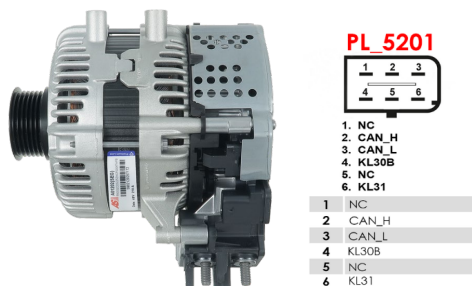

Figure 27. Starter-generator L1TA-11238 and terminal designations in the connector
- 1.1. As an example, Fig. 27 and Table 7 show the connection diagram for the 48 V starter-generator L1TA-11238.